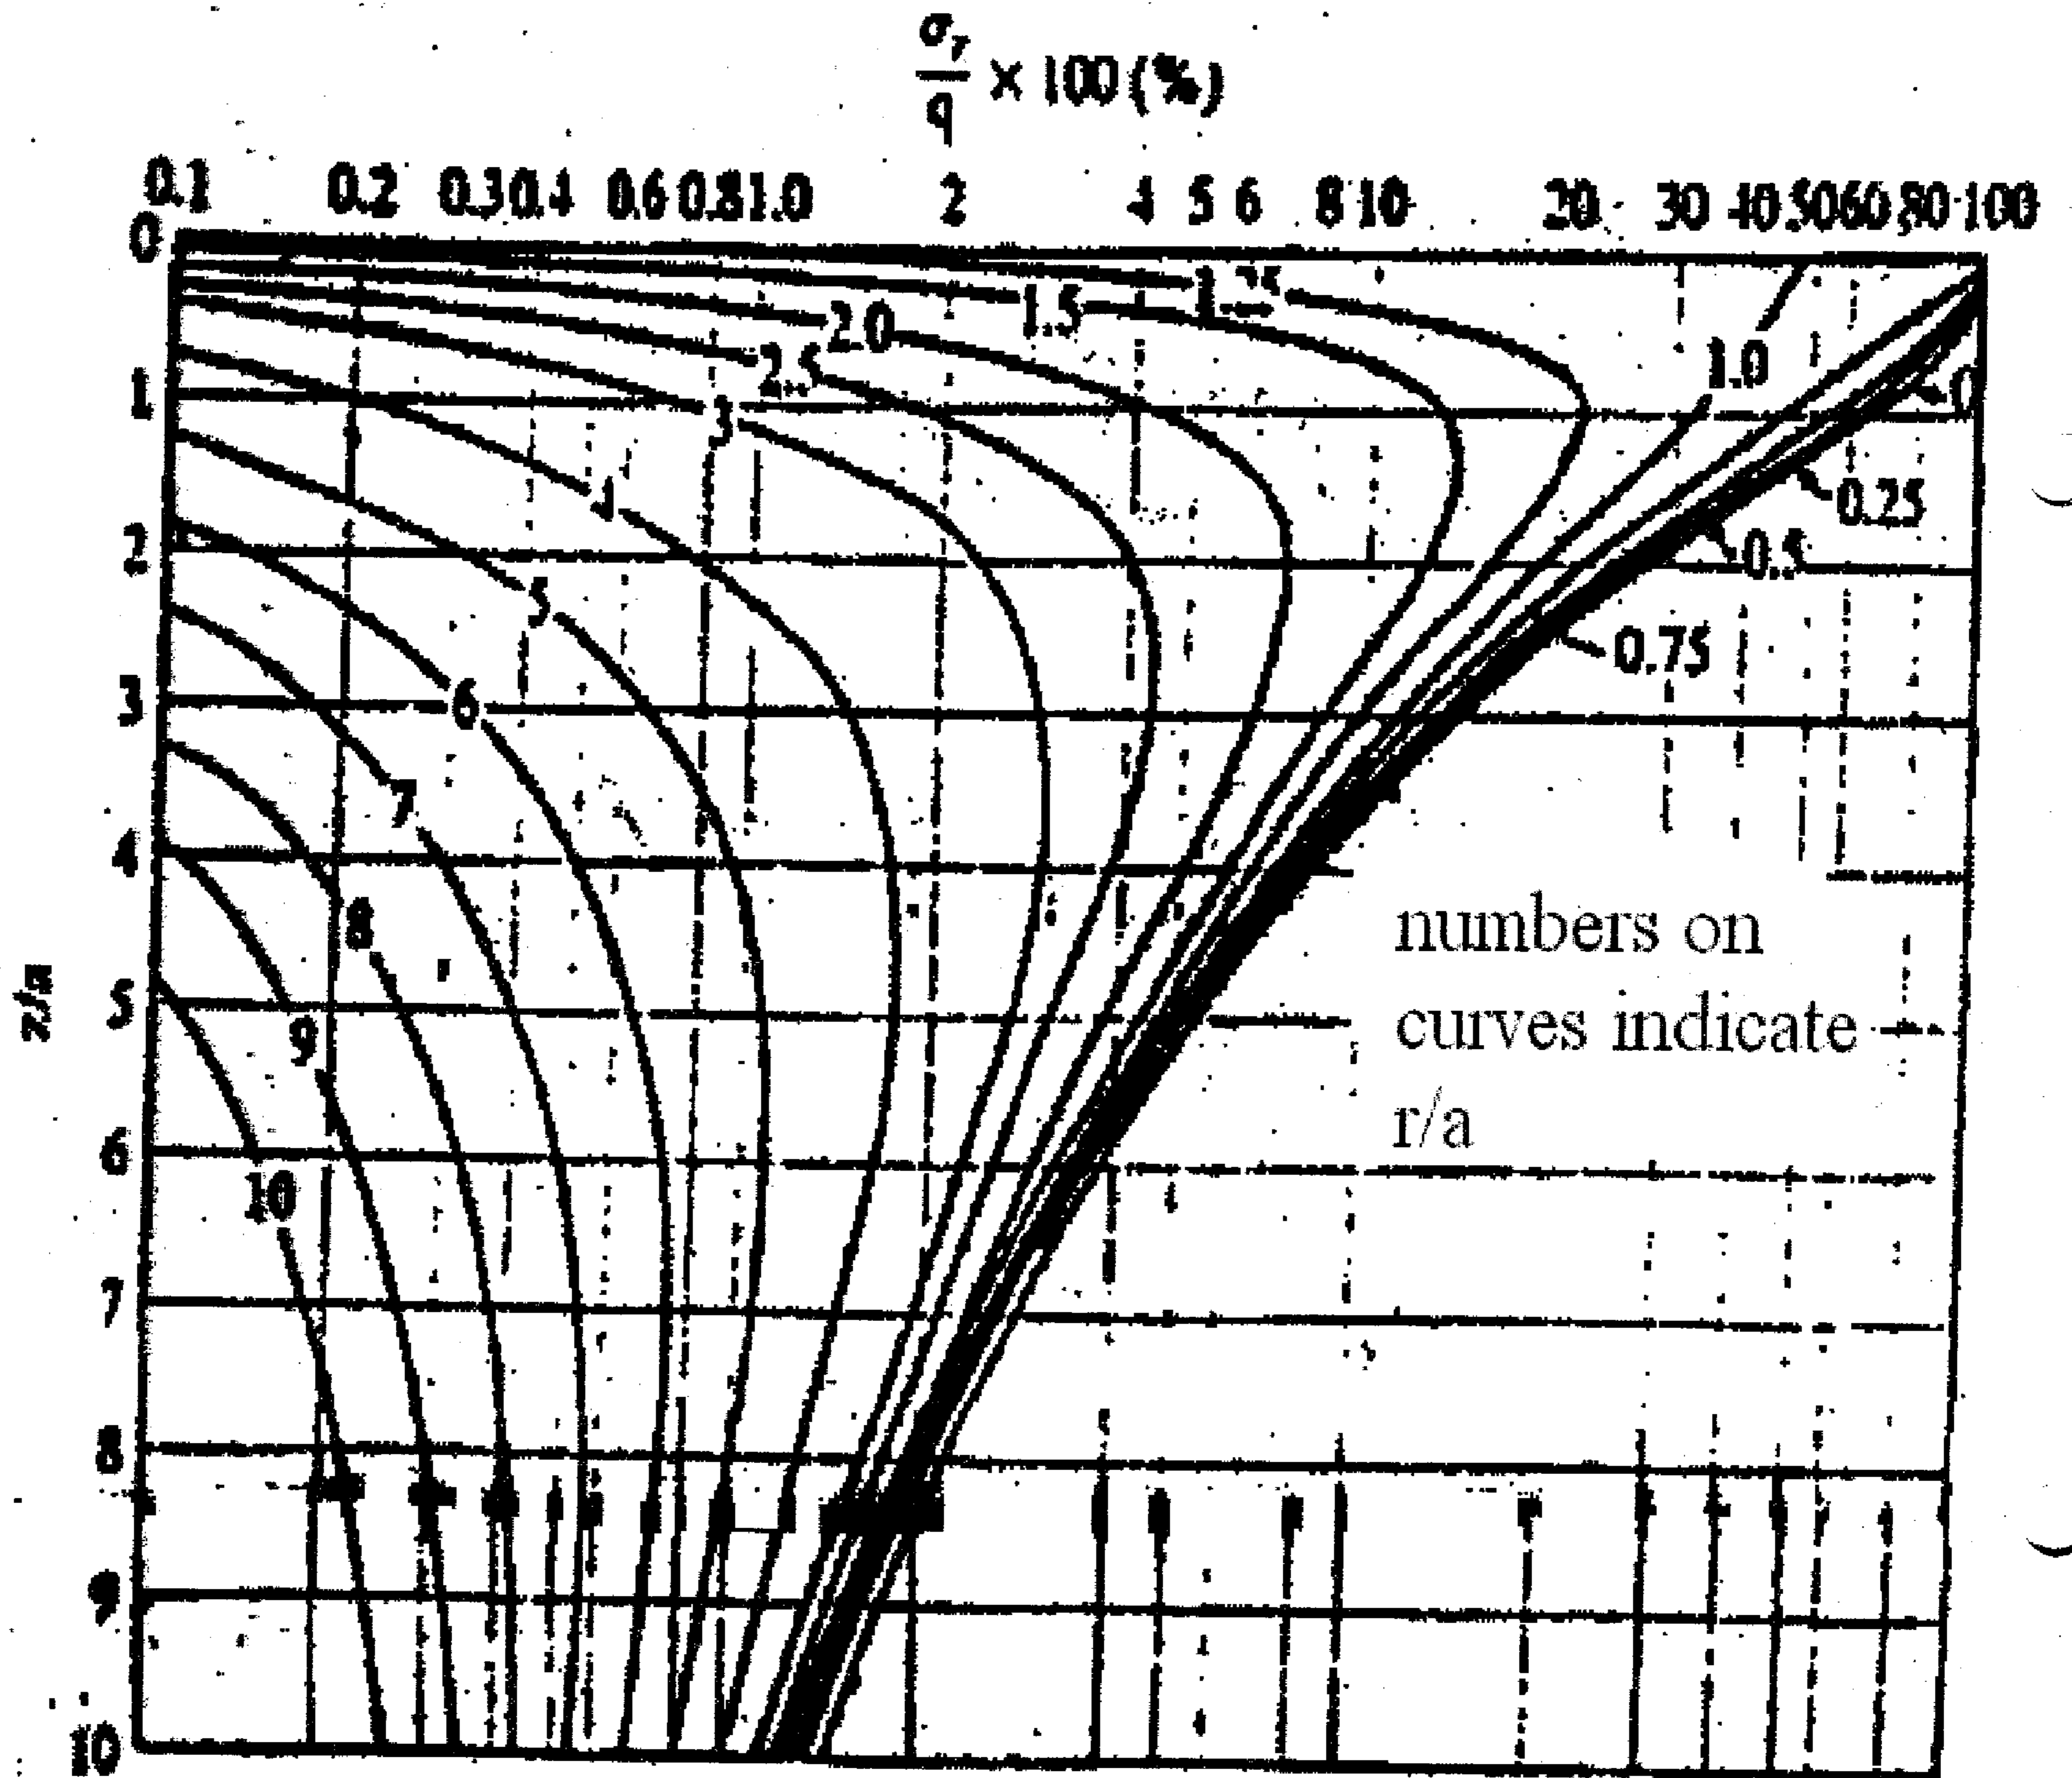

Fig. Q2(b)
- Use chart in Fig. Q2(b). (12 Marks)